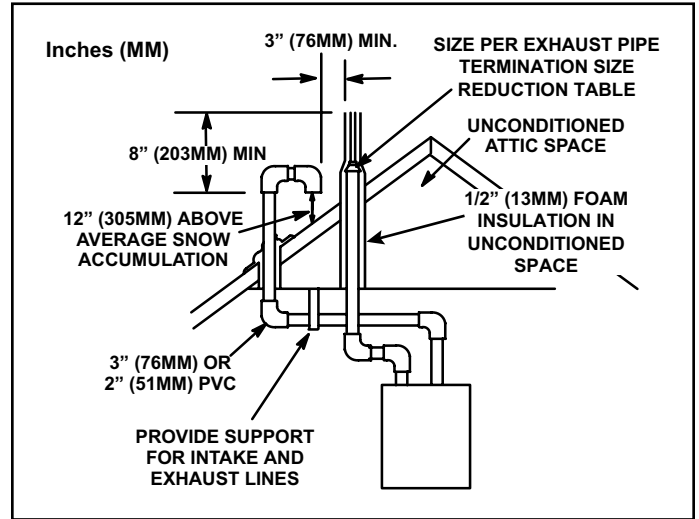

Figure 28. Direct Vent Roof Termination Kit (15F75 or 44J41)
3. On roof terminations, the intake piping should terminate straight down using two 90° elbows (Figure 28).